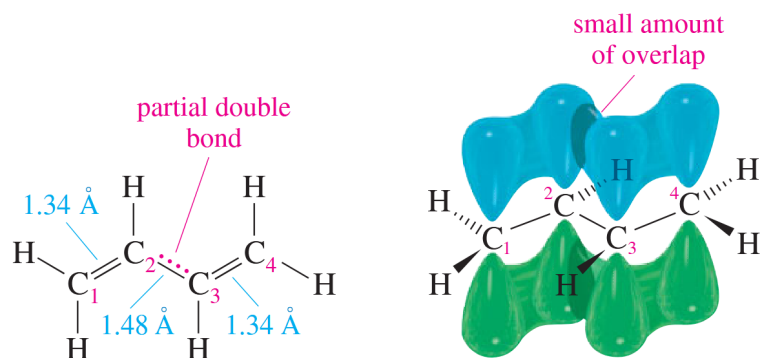

Figure 15.2 Structure of Buta-1,3-diene
1. Figure 15.2 shows the most stable conformation of buta-1,3-diene. This conformation is planar, with the *p* orbitals on the two pi bonds aligned.